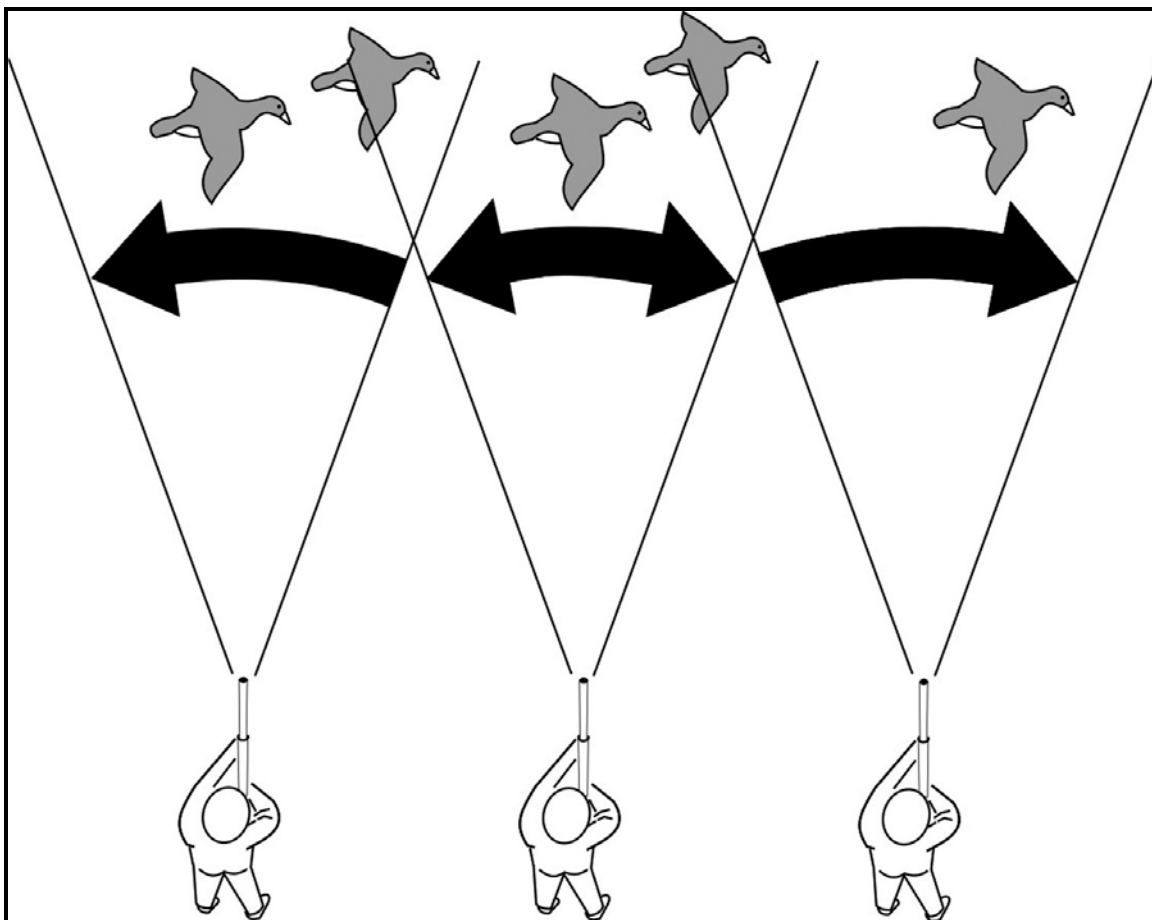

Figure 60. Safe zones of fire
- a. It is worth emphasizing again. Any shot fired in the wrong direction by a group member might hit another person. This is true for all shooting situations. Before starting, everybody should agree on which area each shooter will cover in order to prevent this (Figure 60). This will clearly define each individual's safe zone of fire.